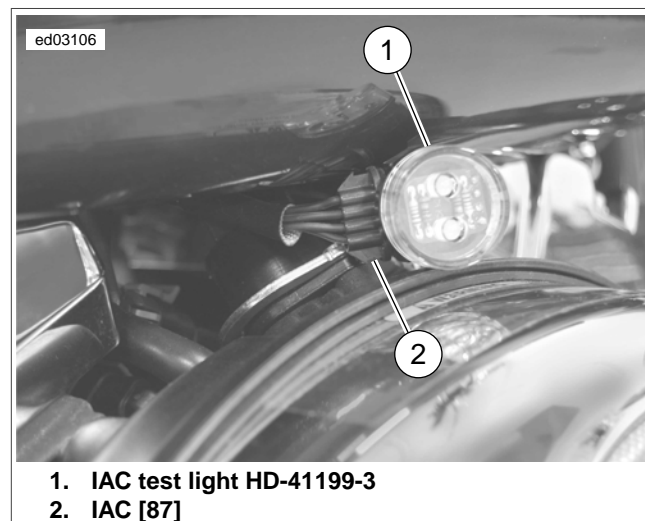

Figure 1-24. IAC Test Light (Part No. HD-41199-3)
1. See Figure 1-24. Disconnect IAC [87B] and connect test light.